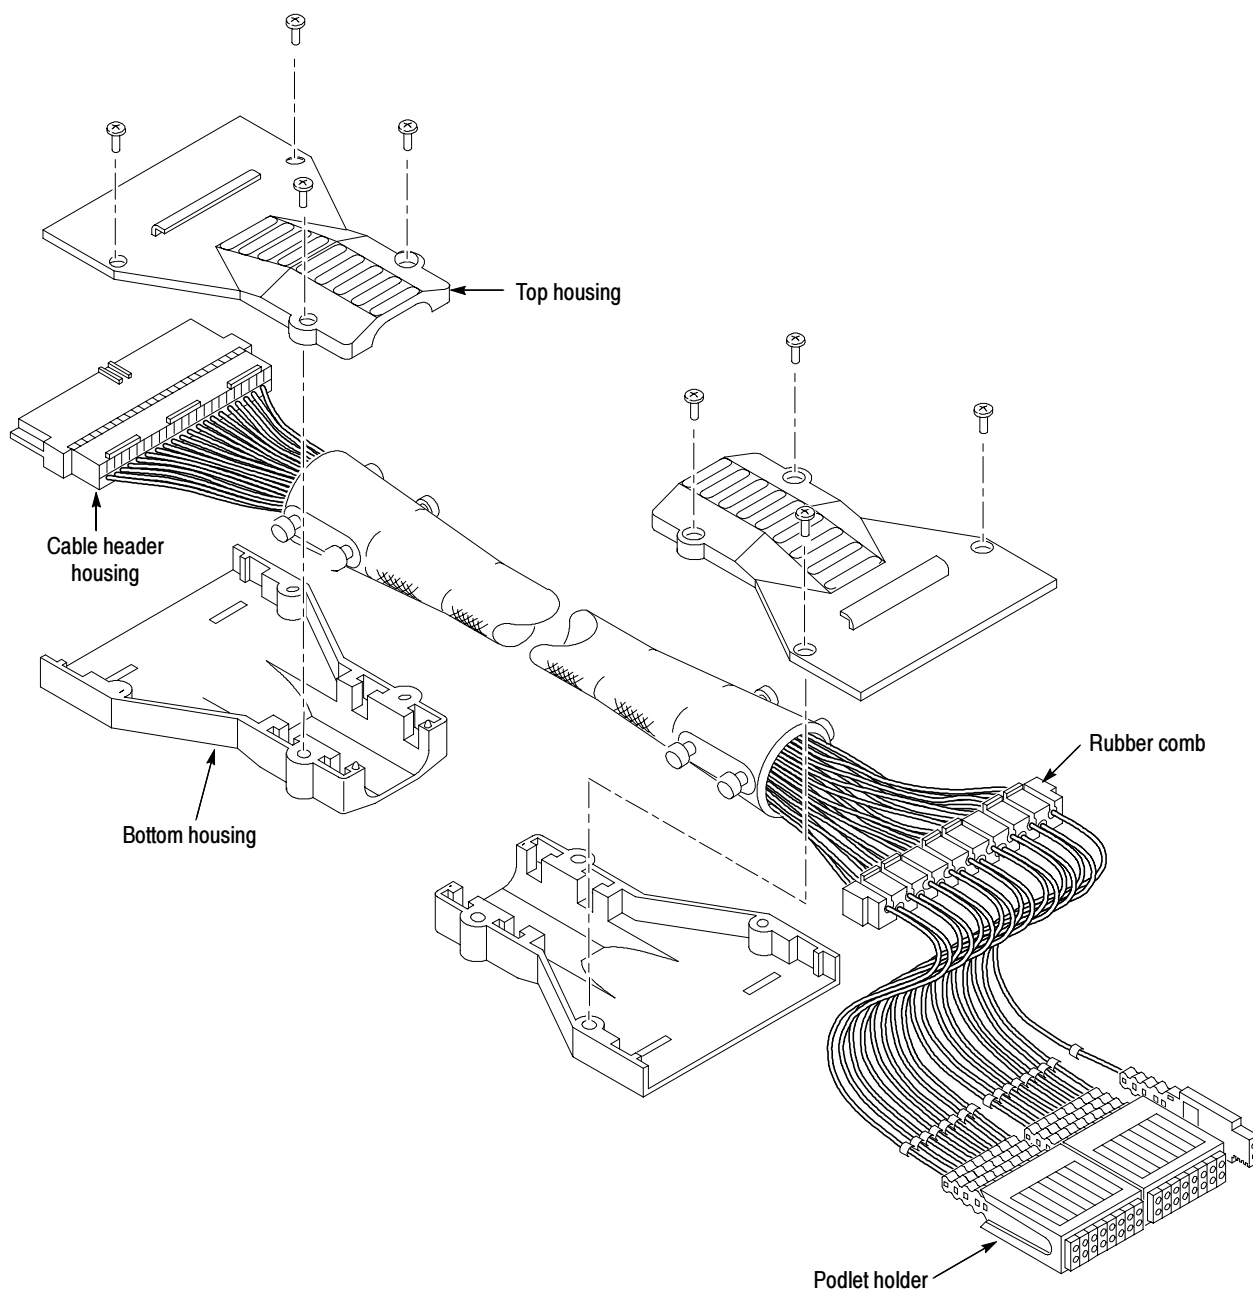

Figure 11: Disassembling the probe cable
3. Using the screwdriver with the #1 Phillips tip, remove the four screws on the probe housing on the module end of probe cable (see Figure 11).
20. Reinstall the top and bottom probe housings on the module end of the probe cable in the following manner (refer to Figure 11 on page 15, if necessary):